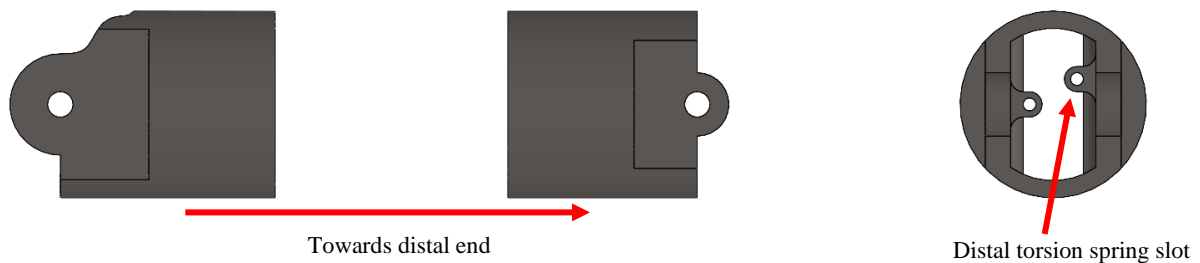
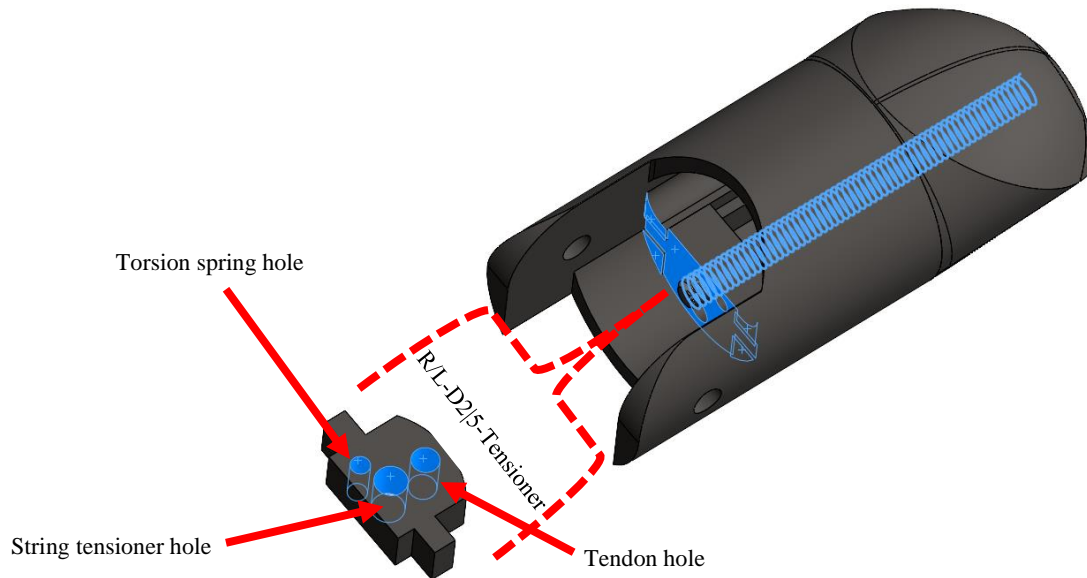

Figure 4: Distal torsion spring slot
Figure 6: String tensioner layout
Orient the two proximal pieces as shown in **Figure 4** and glue them.
2. Use the **M2X25** tensioner screw and screw into the distal part for the string tensioner (**Figure 6**).
3. The hole for the torsion spring may be difficult to clean even with a small file. Suggestion: use gloves and a soldering iron. Heat up the spring leg and press the hot leg through the hole to clean it out. Remove before the plastic solidifies (**Figure 6**).
5. Position the tensioner slightly within the *R/L-D2/5-IPhal* slot and screw the tensioner screw such that it is flush with the bottom of the tensioner (**Figure 6 & 7**). This will allow for maximum adjustment of tension within the finalized tendon.
3. Then with the torsion spring slotted in the torsion spring hole (**Figure 6**) and the **R/L-D2/5-IPhal** distal torsion spring slot (**Figure 4**) join them with the 15mm screw ensuring that the screw goes through the spring and that the tendon is on the palmar side of the digit.